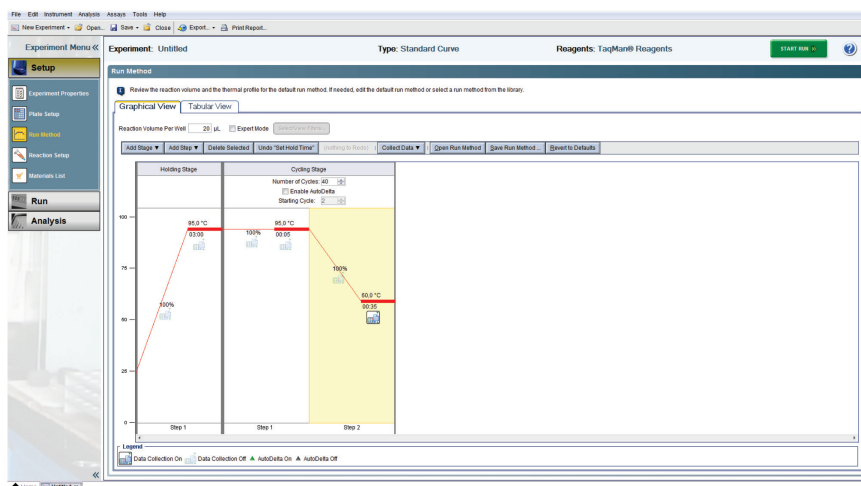

Figure 30. Adjusting the thermal profile (HID Real-Time PCR Analysis Software v1.2).
19. On the thermal profile, change the holding times to those in Table 9. Change the Sample volume to **20 µl** (Figure 30).